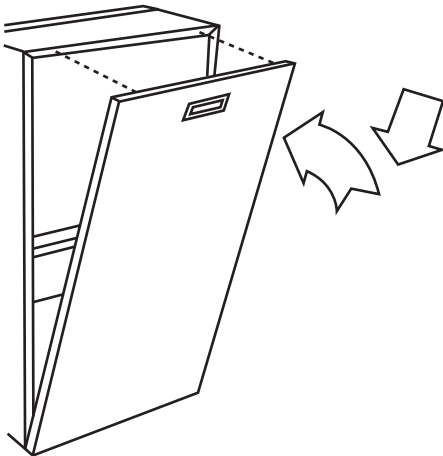

Fig. 19 - Furnace Door Replaced
6. Replace main furnace door. (See Fig. 19.)